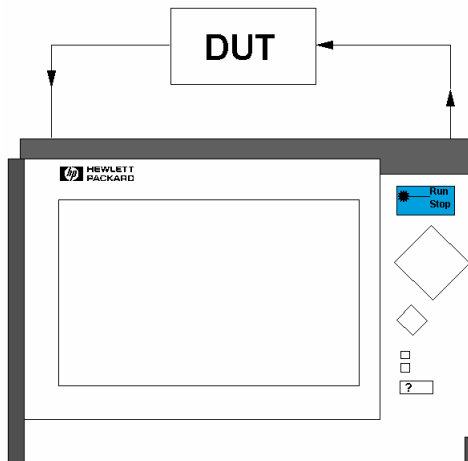

Figure 6-9
- 5 Attach output connectors to the module and the power meter submodule. Connect the module and submodule with a fiber (Figure 6-9, first picture).
- 10 Insert the Device Under Test in the link between the Source and the Power Meter (Figure 6-9, second picture).